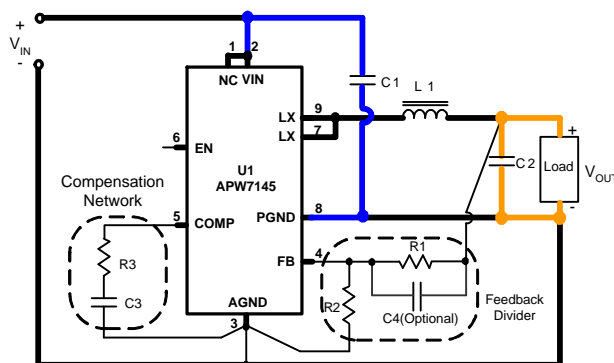

Figure 2. Current Path Diagram
In high power switching regulator, a correct layout is important to ensure proper operation of the regulator. In general, interconnecting impedance should be minimized by using short and wide printed circuit traces. Signal and power grounds are to be kept separating and finally combined using ground plane construction or single point grounding. Figure 2 illustrates the layout, with bold lines indicating high current paths. Components along the bold lines should be placed close together. Below is a checklist for your layout:
2. In Figure 2, the loops with same color bold lines conduct high slew rate current. These interconnecting impedances should be minimized by using wide and short printed circuit traces.